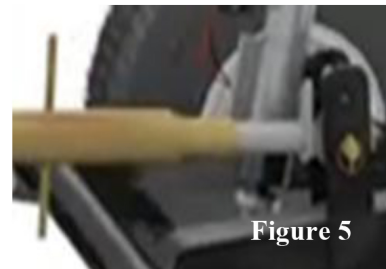

Figure 5
- 3) Adjusting for Standard Operating Position - Start by adjusting your top link to set the cutting angle. This angle is to allow proper ripping, and to ensure the Rascal is used at its greatest potential. Adjust the top link, either opening or closing it, until around 2" of thread is exposed on both ends of the top link. If more thread is showing on one side of the top link, it may offset the angle of the Rascal and change the way that it performs. To ensure a good setup try to keep the thread on both sides of the top link the same at all times. To close up the thread on the top link, disconnect the top link at one side. Spin the whole top link to close up the side until connected to the Rascal, then spin the free connecting head until no thread is visible. Holding the free head of the top link, use the handle in the center of the top link to let out enough thread to re-secure the top link to the Rascal. Last, close up the top link until about 2" of thread is showing on both ends of the top link. Figure 5 shows the top link with about 2" of thread showing once attached.